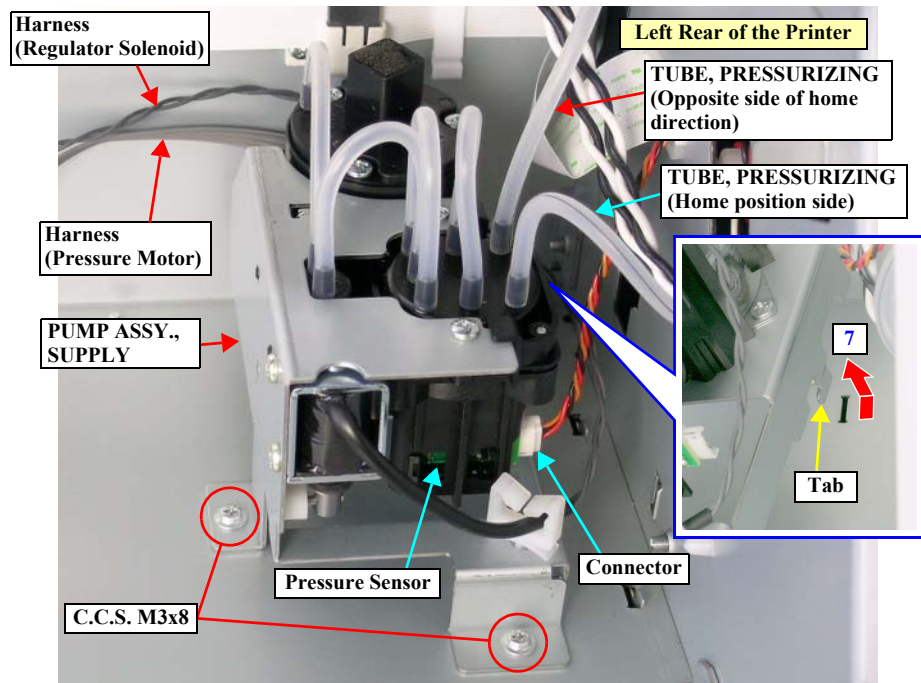

Figure 4-147. Removing the PUMP ASSY., SUPPLY
4. Disconnect the connector from the Pressure Sensor. *See Figure 4-147.*
5. Pull the two TUBE, PRESSURIZINGs shown in *Figure 4-147* out of the PUMP ASSY., SUPPLY.
When inserting the two TUBE, PRESSURIZINGs into the PUMP ASSY., SUPPLY, pay attention to the followings. *See Figure 4-147.*
6. Remove the two screws that secure the PUMP ASSY., SUPPLY. *See Figure 4-147.*
7. Lift the PUMP ASSY., SUPPLY obliquely upward to release the tab, and remove the PUMP ASSY., SUPPLY. *See Figure 4-147.*